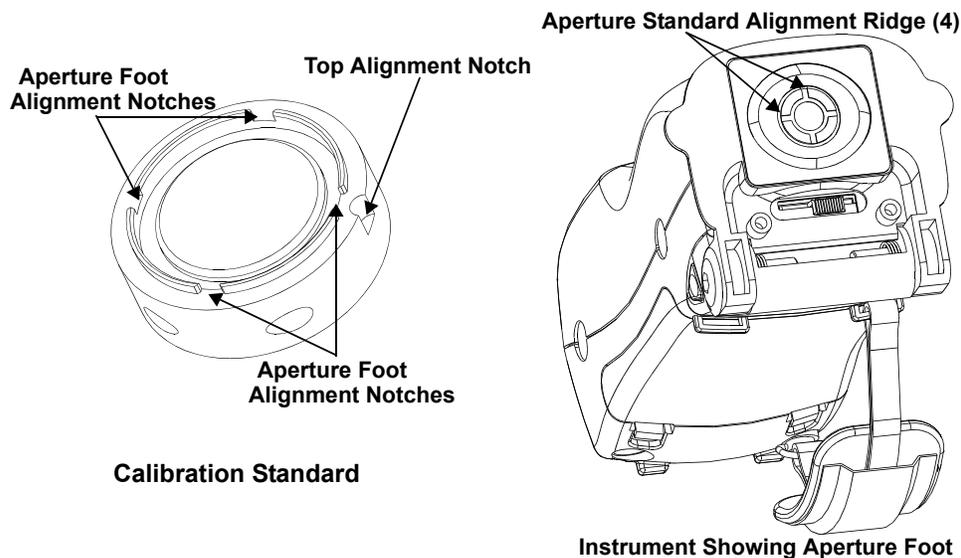
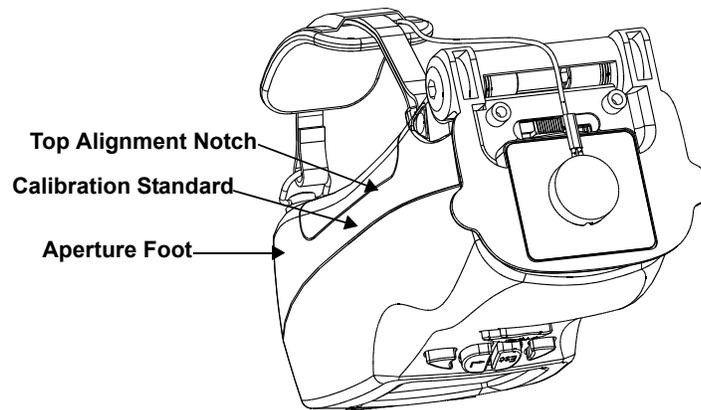

Figure 4-1. Calibration Standard Alignment
Figure 4-2. White Calibration Standard At Aperture Opening
5. Position the white standard at the aperture opening. See Figure 4-1. Make sure that the standard is properly aligned with the ridges on the aperture foot. Locate the Top Alignment Notch on the standard and make sure it is aligned with the top of the aperture foot. See Figure 4-2.